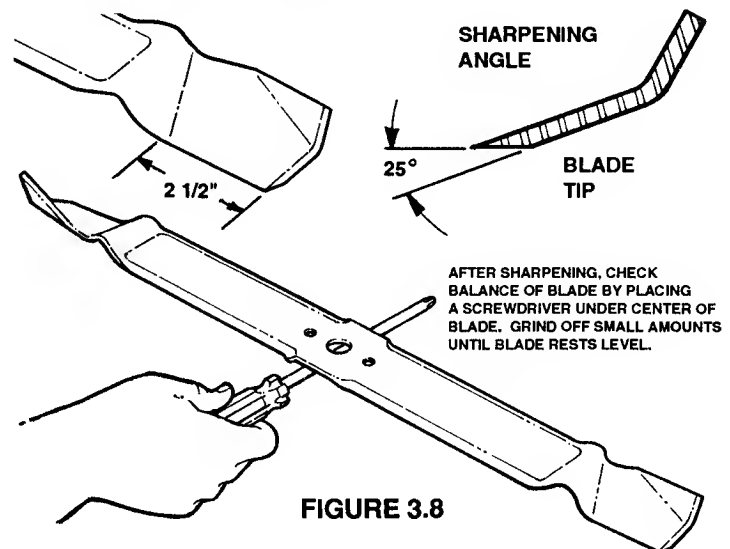

FIGURE 3.8
3. Sharpen Blade when the cutting edges become dull if the blade is in otherwise good condition. When dull, the grass cut ends will be ragged and usually turn brown soon after mowing. For best results, remove the blade and sharpen it on a grinding wheel at an angle of 22 to 28 degrees. The cutting surface should extend in about 2 1/2" from the tips. Check the blade after sharpening to determine that it is still balanced. It will cause excessive vibration if unbalanced. See Figure 3.8.